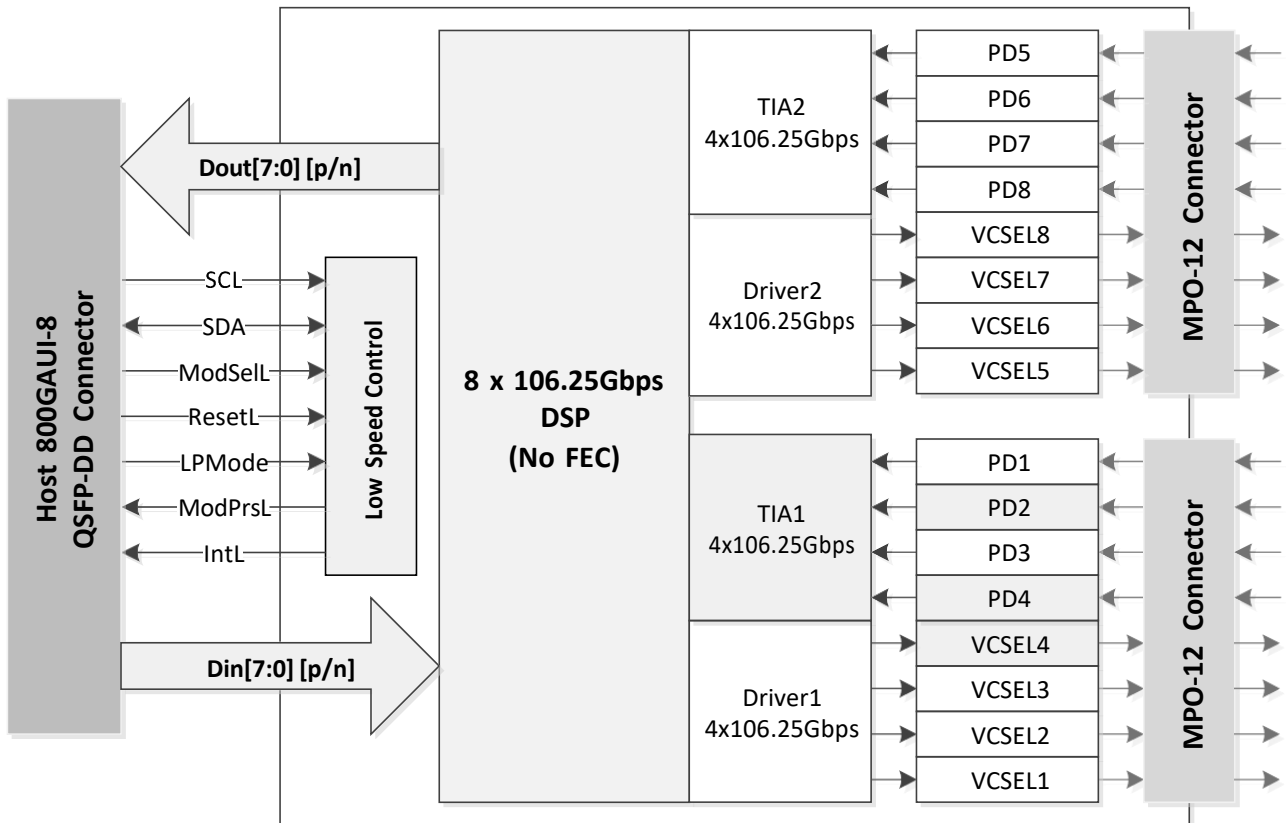

Figure 1: Transceiver Block Diagram
As shown in Figure 1, the transmitter part of the transceiver contains an 8x106.25Gbps 800GAUI-8 electrical input and equalization (EQ) block, two 4-channel laser drivers and eight multimode laser sources.
As shown in Figure 1, the receiver part of the transceiver contains eight PIN photodiodes, two 4-channel trans-impedance amplifiers (TIA) and an integrated 800GAUI-8 compatible electrical output block.